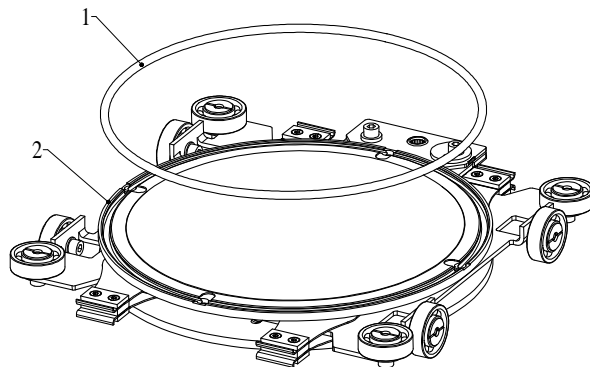

Figure 6-4
2. Remove gate seal (1) from groove; see «Figure 6-4», use O-ring removal tool.